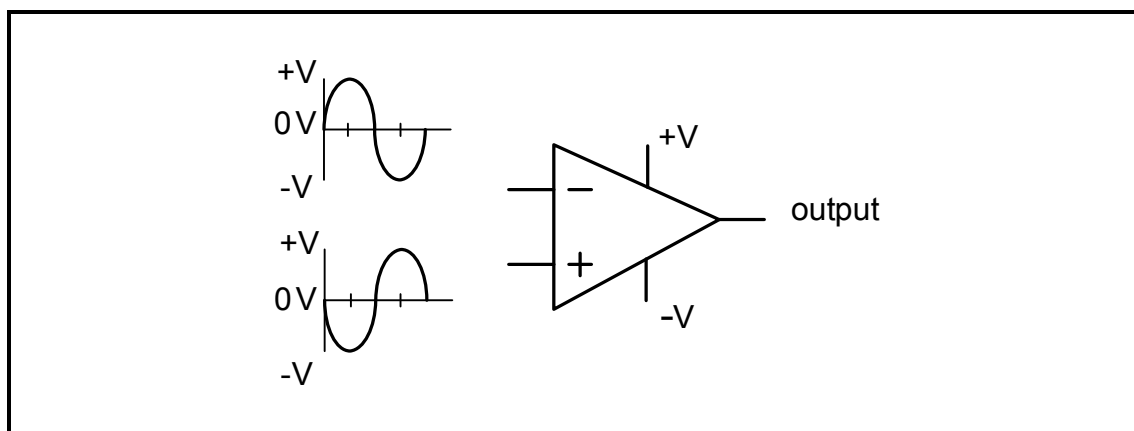

FIGURE 3.1.3: SIGNALS
- 3.1.3 Draw the output signal on ANSWER SHEET 3.1.3 if the signals in FIGURE 3.1.3 below are applied to the inputs of an op amp.